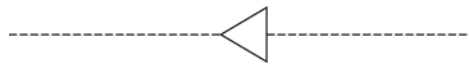

Fig. 20 Pneumatic operation signal pressure line
- Pneumatic operation signal pressure lines should be drawn on one side of the squares, while triangles are used to represent the direction of air flow (Fig. 20).